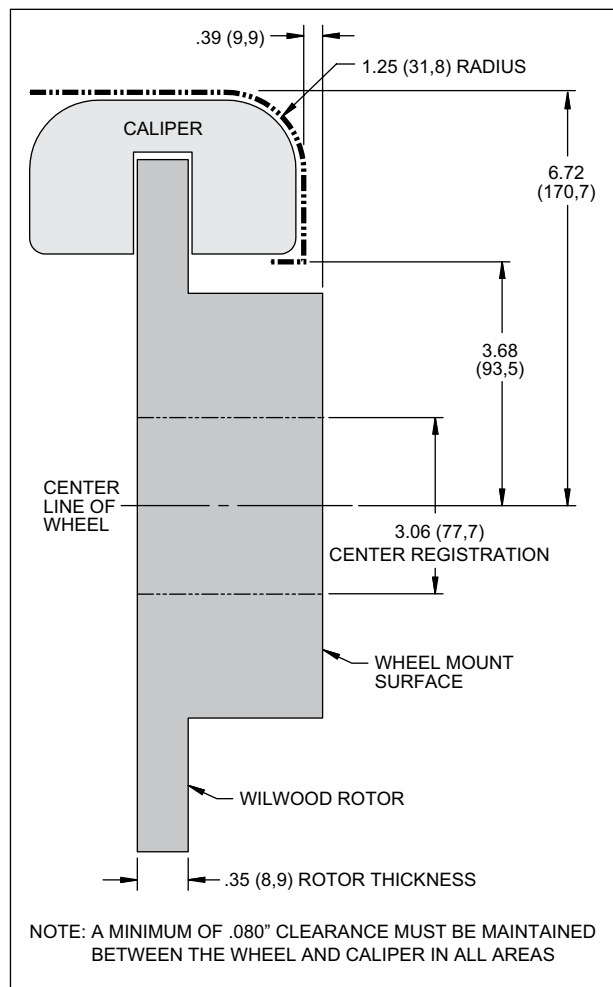

Figure 2. Wheel Clearance Diagram
- Review the Wheel Clearance Diagram (Figure 2) to verify that there is adequate clearance with the wheels you will be using with the installation.